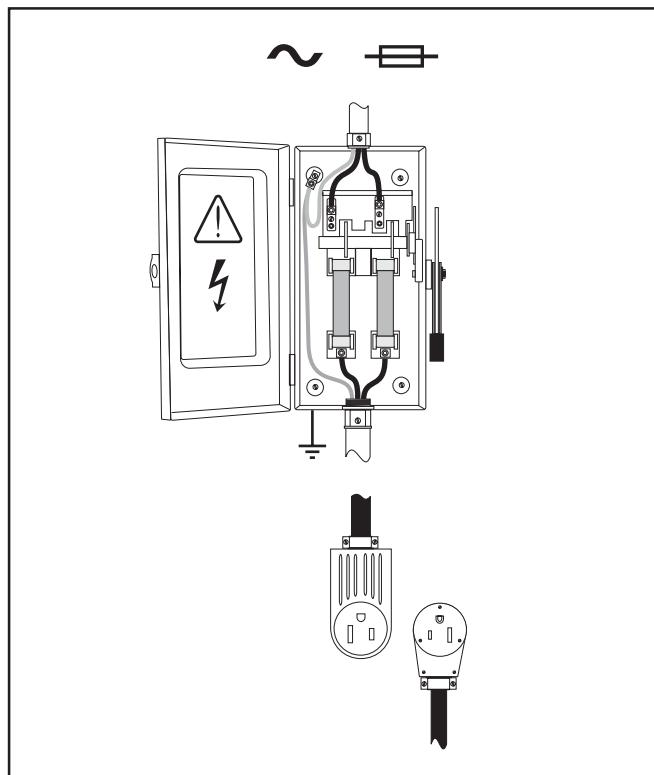

Figure 1 - Customer supplied single phase fused disconnect box and plug receptacle
2.0 INSTALLATION & CONTROLS (See Fig. 1)